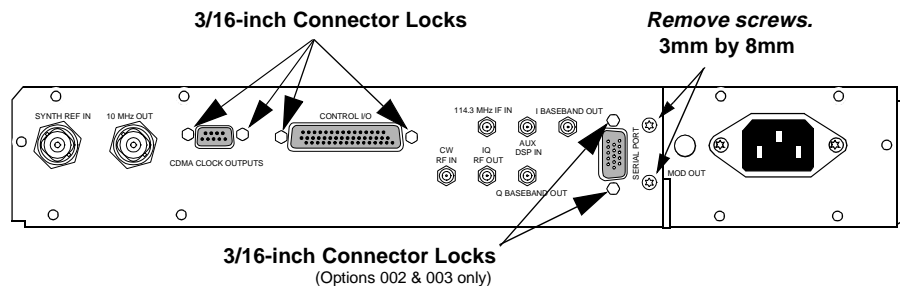
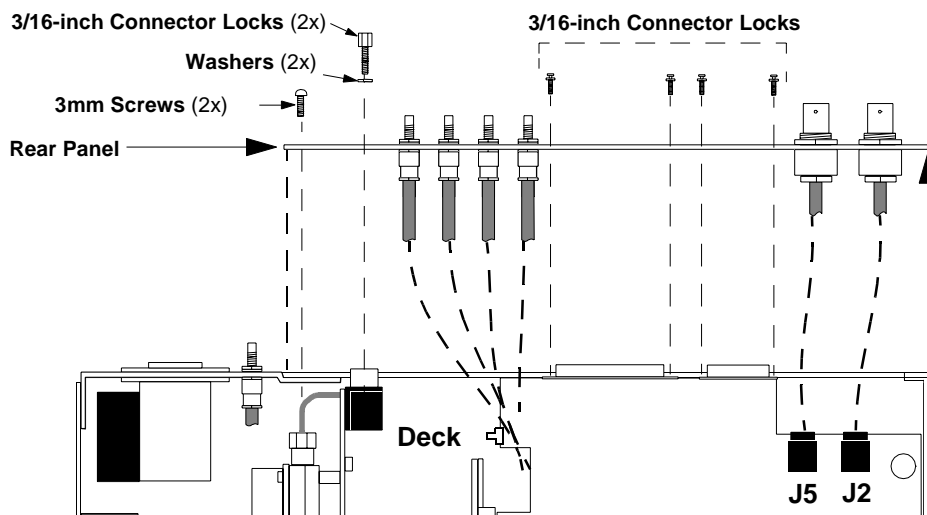

Figure 22
Figure 23
2. Remove the 3/16-inch connector locks and two 3mm screws shown in figure 22 and figure 23.
3. Pull the rear panel away from the deck as shown in figure 23.
This completes the removal of the rear panel. Cable clips identify the location of the SMC connectors on the rear panel. When reinstalling the SMC and BNC connectors, use figure 22 and figure 23 on page 70 and table 7 below for identifying the location of the connectors.
SYNTH REF IN	(BNC/cable goes to J2 on A4 assembly, see figure 23 on page 70.)
10 MHz OUT	(BNC/cable goes to J5 on A4 assembly, see figure 23 on page 70.)